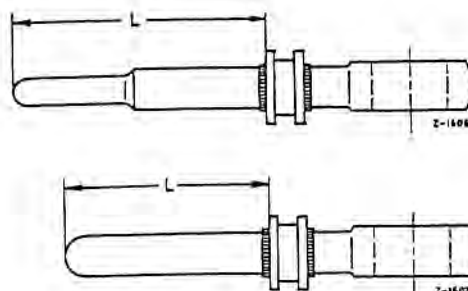

Fig. 29-3/5 -
The supply cylinder is similar to that of the 2nd version for Models 220 b, 220 Sb and 220 SEb Sedan. Only the piston (7) and the piston rod (12) have been modified (Fig. 29-3/5).
The length L of the piston rod is 56 mm (Fig. 29-3/5).